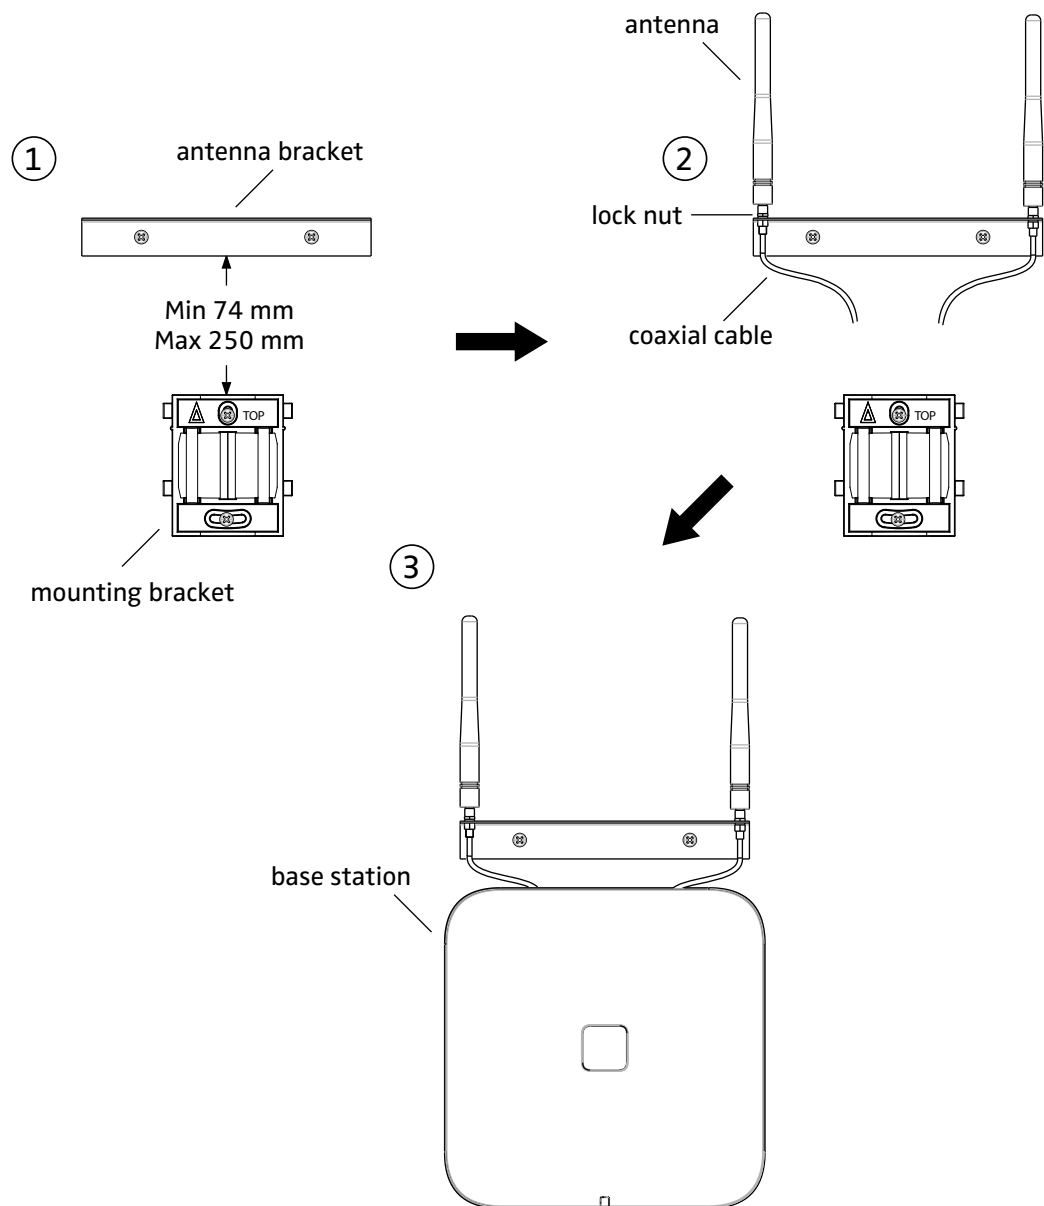

Figure 11. Connect external antennas.
1. Position the included antenna bracket above the mounting bracket with a minimum distance of 74 mm (250 mm maximum) and mark the two holes for the antenna bracket, see figure 11 on page 40 (1).
4. Mount the two included coaxial cables on the antenna bracket figure 11 on page 40 (2). Fasten the coaxial cables with the lock nuts which are found on the coaxial cable antenna connectors.
5. Mount the antennas on the antenna connectors (2).
7. Mount the base station (3), see 4. Mount the Base Station on page 44.